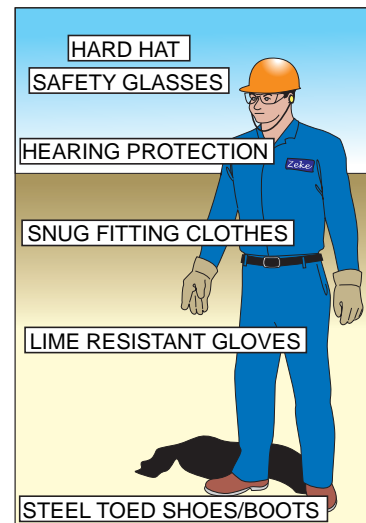

Figure 15
2.4 **⚠️WARNING!** Wear personal protective clothing when working around a concrete pump (Figure 15). The gloves should resist concrete lime burns. If you will be working **in** the concrete, which is highly caustic to the skin, protect your feet and hands with rubber boots and gloves.